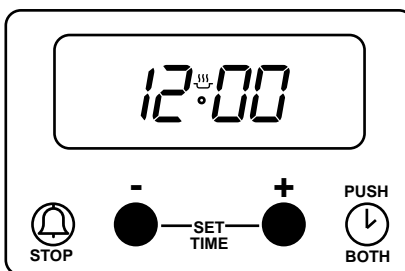

Fig. 13.2
Press buttons (1) and (2) together. The display will read 12:00. See Fig. 13.2.